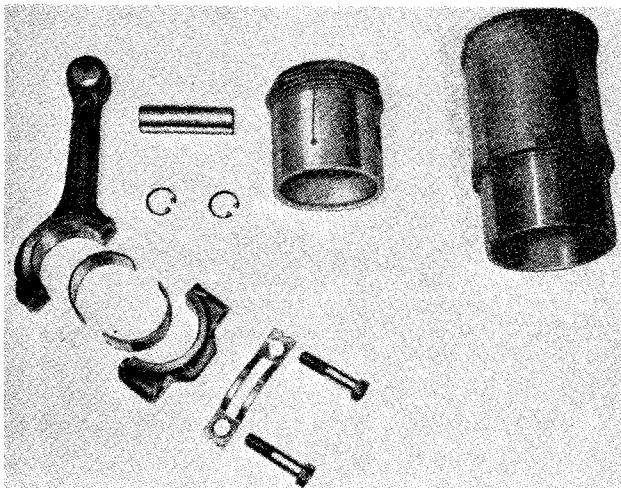

Fig. 6 The Piston and Connecting Rod Assembly in exploded form.
(d) **The Connecting Rods** (Fig. 6) are molybdenum manganese steel stampings being provided with phosphor bronze small end bushes and precision type big end bearings. The rod is drilled from the big end bearing to the small end bearing to provide for the passage of oil under pressure from the main supply. The big end bearing cap is of a special design, the cap securing bolts being inclined at an
- (e) **Aeroflex Compensating Pistons** (Fig 6) are employed, which are made from a special aluminium alloy and each provided with two compression rings and one oil scraper ring. The pistons are graded F, G or H (dimensions on page 2) and this symbol is stamped on the crowns. The piston skirt has a $\frac{1}{32}$ " slot on the non-pressure side and is fitted to the connecting rod so that this slot is away from the point of maximum thrust, Fig. 7 (facing the camshaft side of the engine).